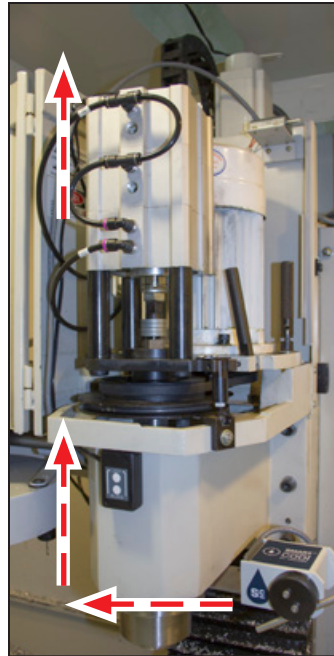

Figure 7
2. Route control cable from SmartCool Head Unit up spindle column and through inside of spindle motor cabinet (see **Figure 7**).